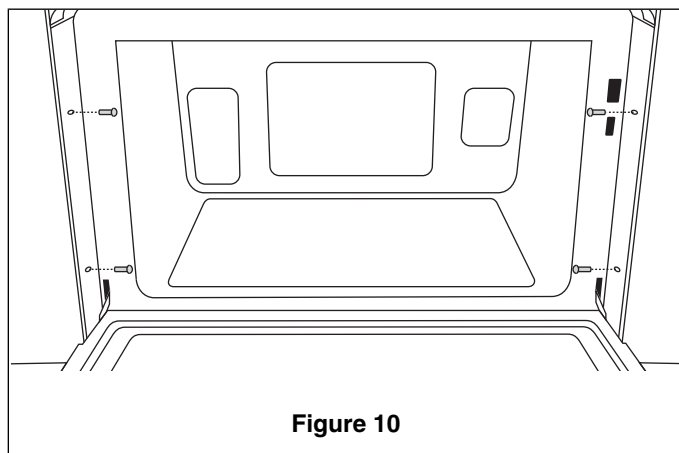
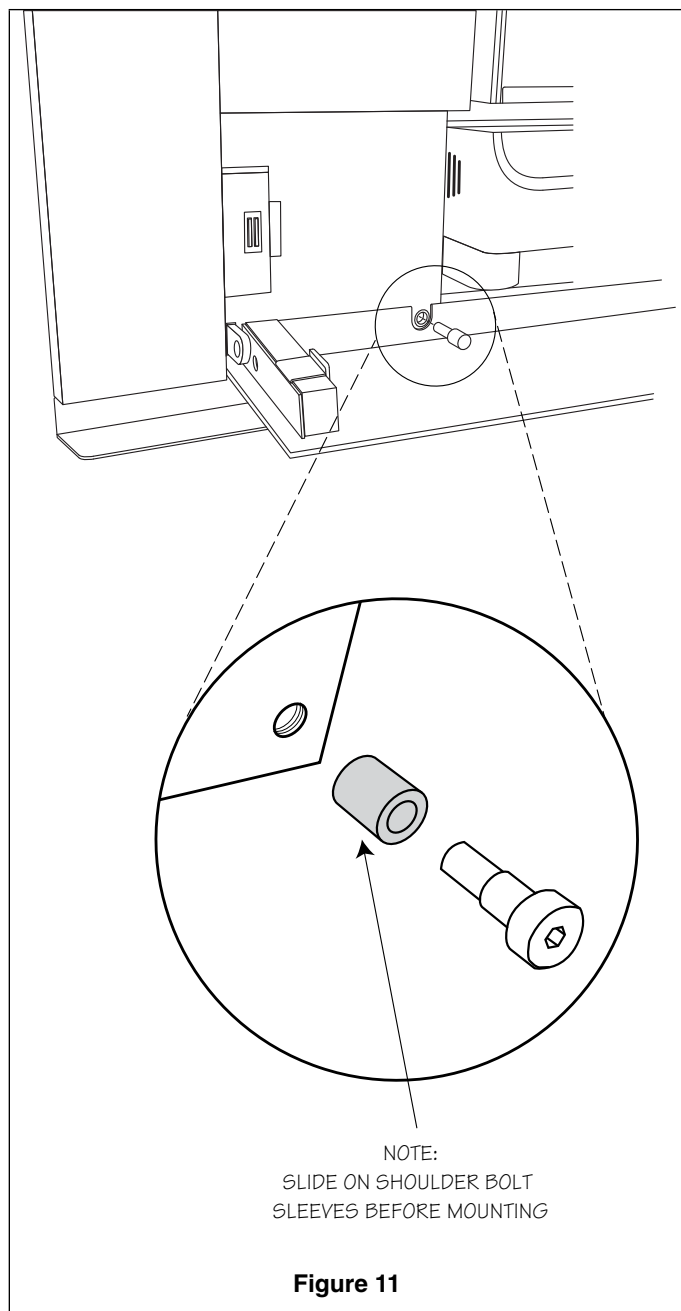

Figure 10
Figure 11
6. Open the drip tray door and insert the 2 shoulder bolts supplied. See Figure 11. Do not completely tighten.
7. Check alignment of oven then tighten the 4 mounting bolts in Figure 10 and the 2 shoulder bolts in Figure 11 to secure oven.